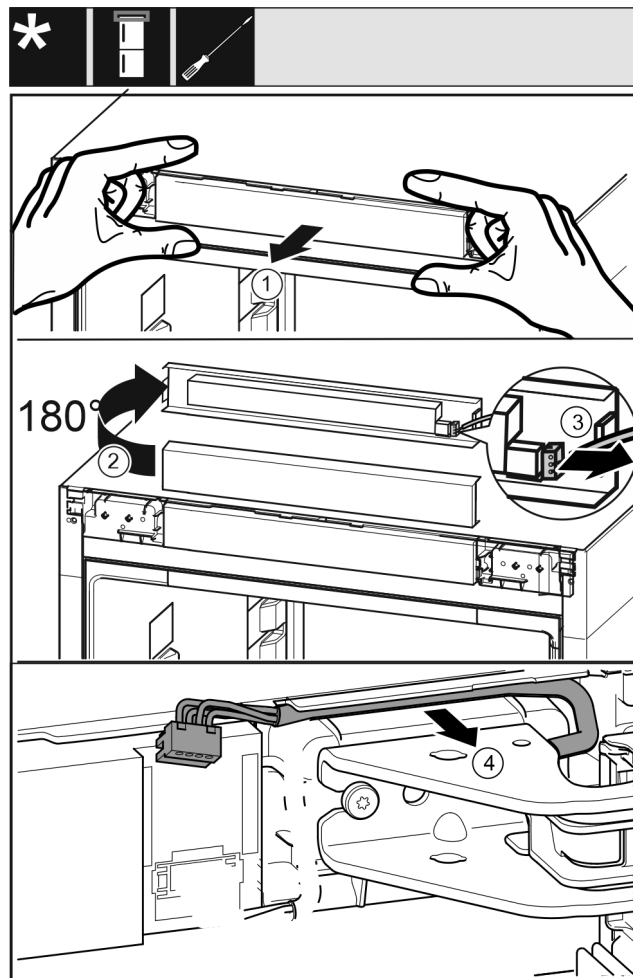

Fig. 19
- Pull out the control panel of the appliance to the front carefully. Fig. 19 (1)
- Turn the control panel upwards by 180°. Fig. 19 (2)
- Push the latching lug back and pull out the plug carefully. Fig. 19 (3)
- Carefully pull out the cable over the bearing bracket out of the guide. Fig. 19 (4)